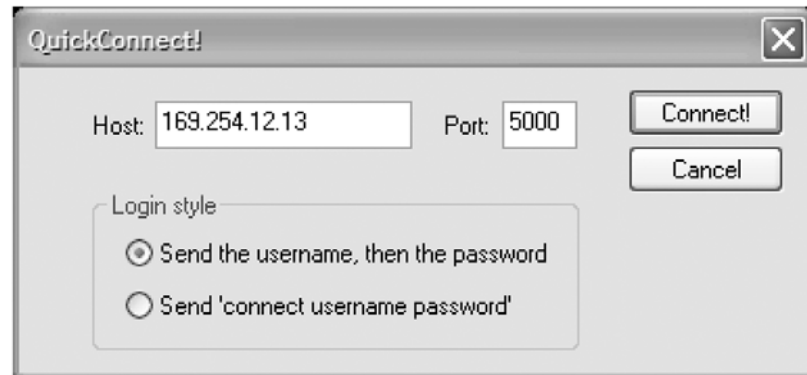

Figure A-16. QuickConnect
A very easy to use TCP client is Pueblo. Pueblo is available from <http://pueblo.sourceforge.net/pueblo/>. Download and install the Pueblo application. Launch Pueblo, and using the QuickConnect feature, type in the IP and port of 5000 as in Figure A-16:
5. From the Worlds tab, select QuickConnect. Enter the laser IP address and port 5000. See Figure A-16. The port used to open the TCP socket is 5000; only one TCP port can be opened at one time. Press "Connect."